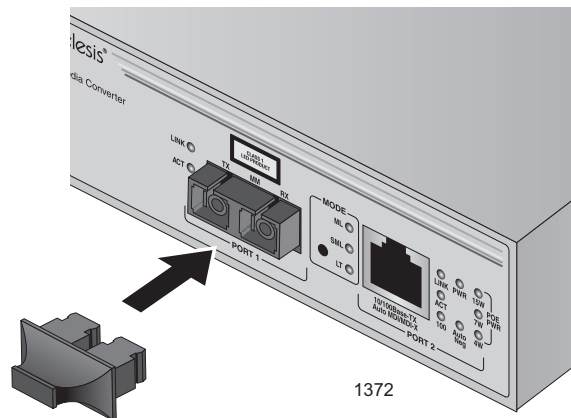

Figure 8. Removing the Dust Cover from the Fiber Optic Port
1. Remove the dust cover from the fiber optic port, as shown in Figure 8 on page 41.